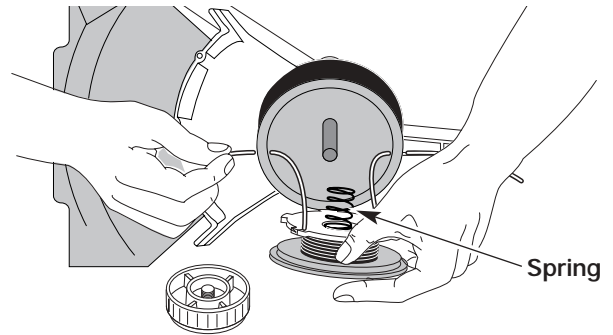

Fig. 59
13. Insert the ends of the line through the eyelets in the outer spool and place inner reel with spring inside the outer spool (Fig. 59). Push the inner reel and outer spool together. While holding the inner reel and outer spool, grasp the ends and pull firmly to release the line from the holding slots in the reel.
5. Insert the ends of the line through the eyelets in the outer spool (Fig. 59).